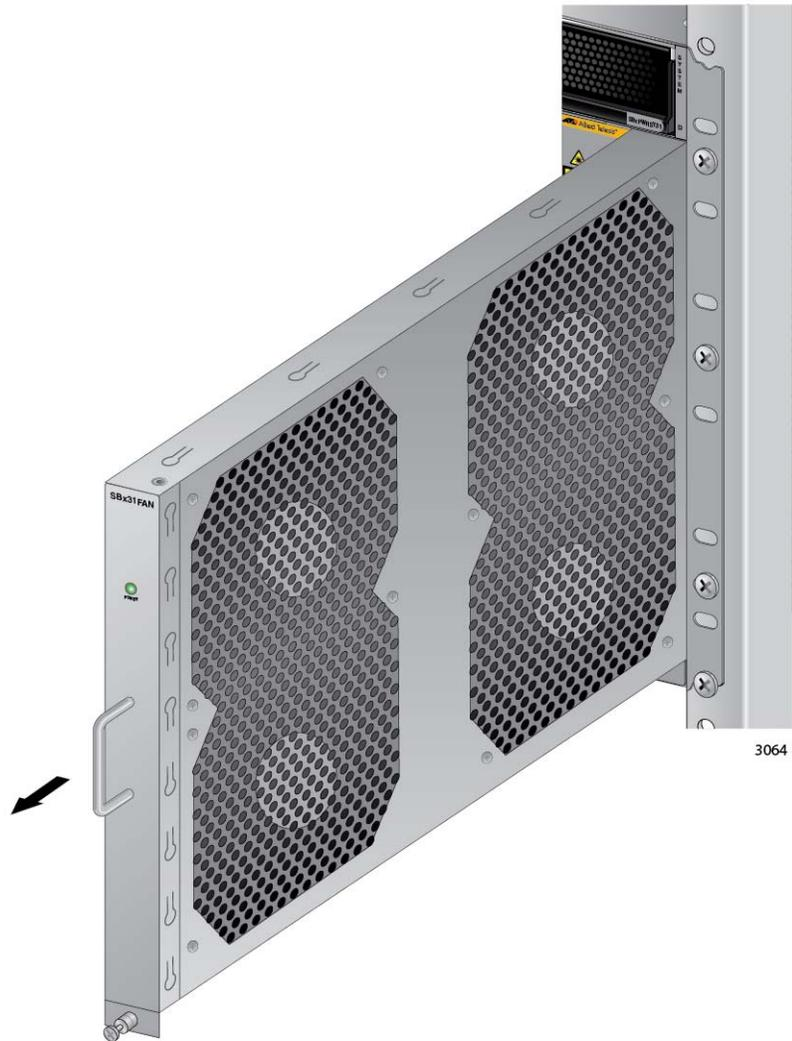

Figure 172. Removing the AT-SBxFAN12 Fan Module from the Chassis
6. After the fans have stopped, slide the module from the chassis. Refer to Figure 172 on page 267.